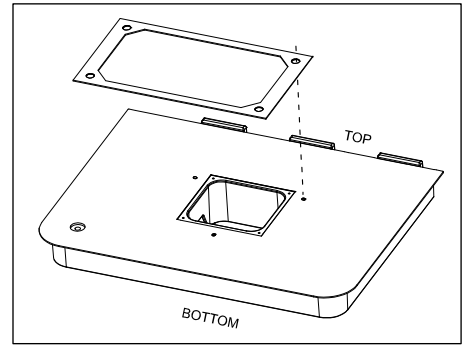

Figure 2 Place Gasket on BGE Lid
1. Align one hole in the gasket with the existing hole on the BGE nearest to the top right corner of the cutout (Figure 2).